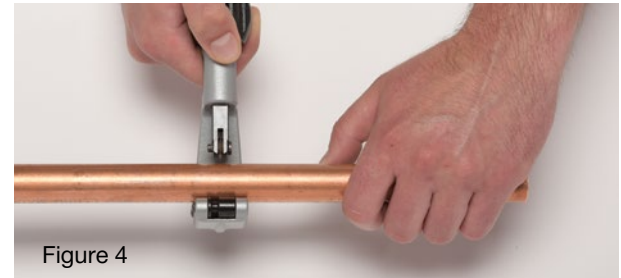

Figure 4
4. Cut the copper tube using the supplied or similar tube cutter (Figure 4). Ensure tube section to be pressed is straight. Caution: Do not proceed if the tube is cut at any visible angle other than 90 degrees or if the tube is not straight. Do not use a worn or damaged tube cutter, which can damage the tube and compromise the installation. This may lead to injury, equipment damage or failure of the system.